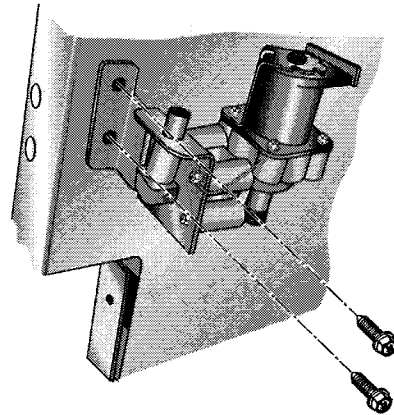

Fig. 3-18
3. Remove the two (2) Hex-Head screws securing the water valve to the side of the cabinet liner. (Fig. 3-18)